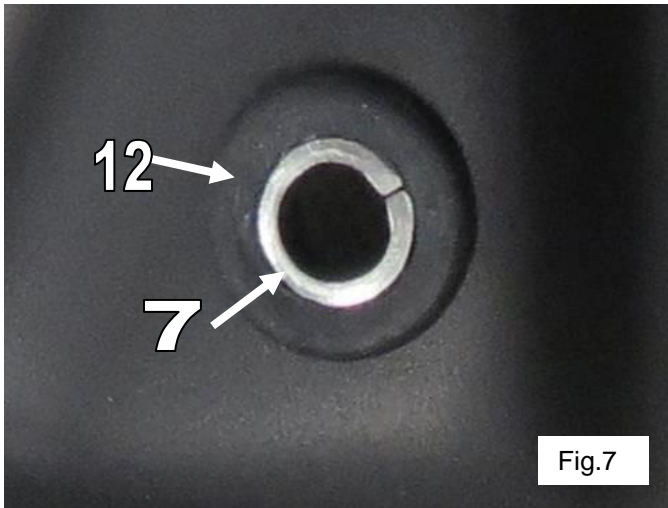

Fig.7
6. Fit rubber grommets (12) into eliminator and spacers (7) into grommets as shown in Fig.7